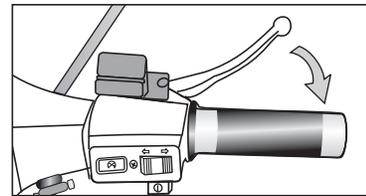

Fig. 17
5.2 **Front Brake:** Operates on the front wheel. Press hand brake lever towards the twist grip to apply the brake (Fig. 17).